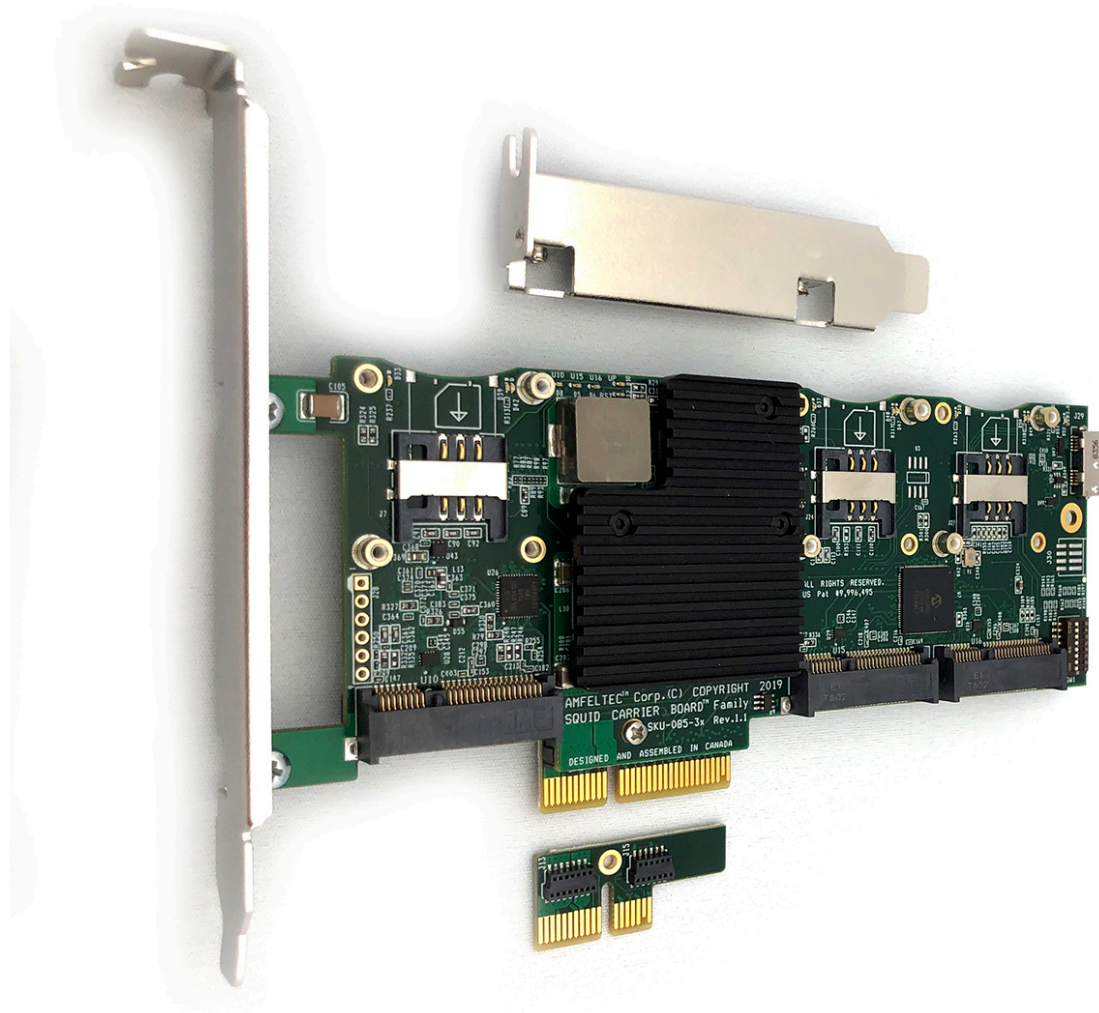
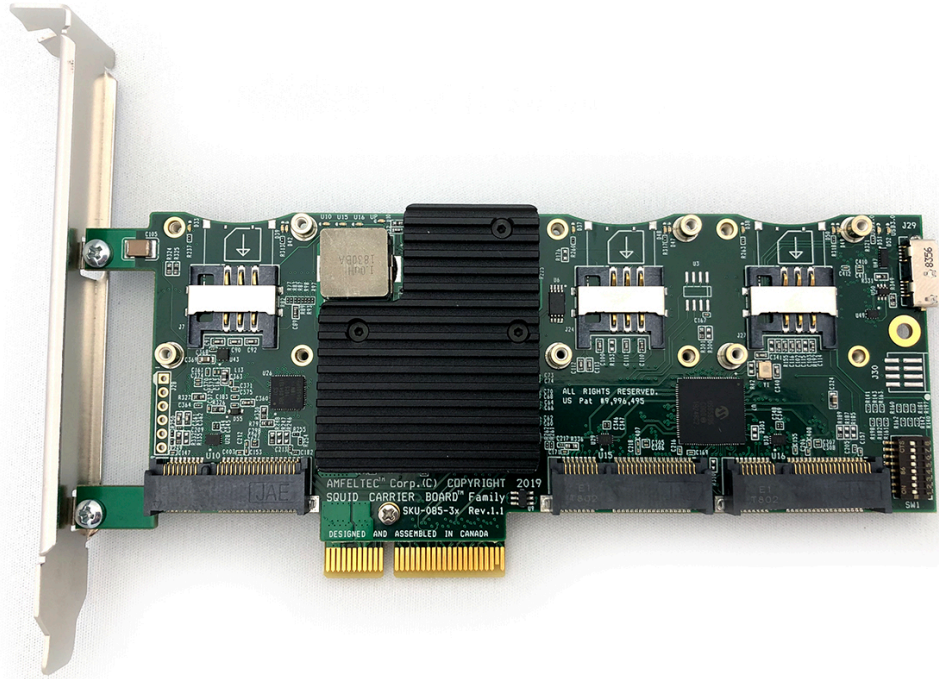
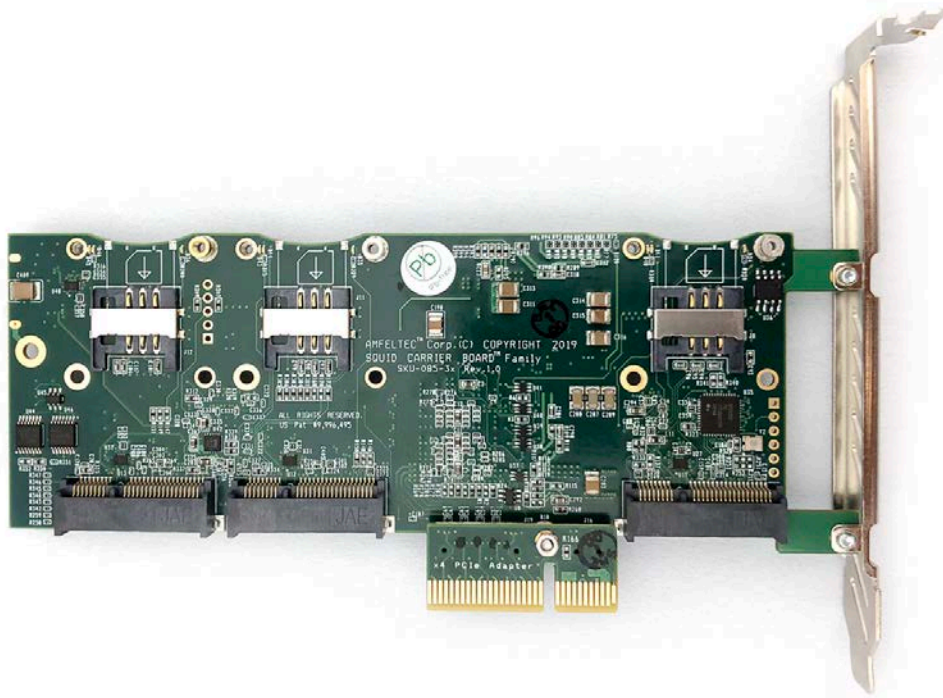

Figure 1: PCI Express Gen 3 Carrier Board for six MiniPCle modules (with x4 PCIe upstream Adapter)
Figure 2: PCI Express Gen 3 Carrier board for six MiniPCle modules (component side).
Figure 3: PCI Express Gen 3 Carrier board for six MiniPCle modules (soldering side)
1. PCI Express Carrier Board for MiniPCIE modules (Figure 1, Figure 2 and Figure 3)
2. x1 or x4 PCI Express Adapters (Figure 1)